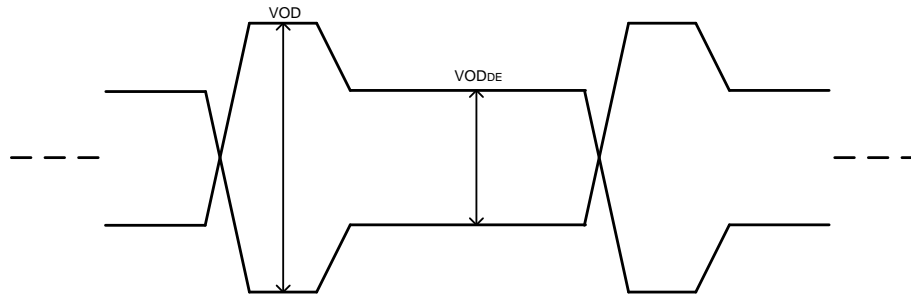

Figure 8. VOD and VOD_{DE} Levels
(1) The output drivers are capable of providing higher VOD and DEM levels (max settings are 7). For more VOD and de-emphasis levels, refer to Table 9.
(2) See Figure 8.